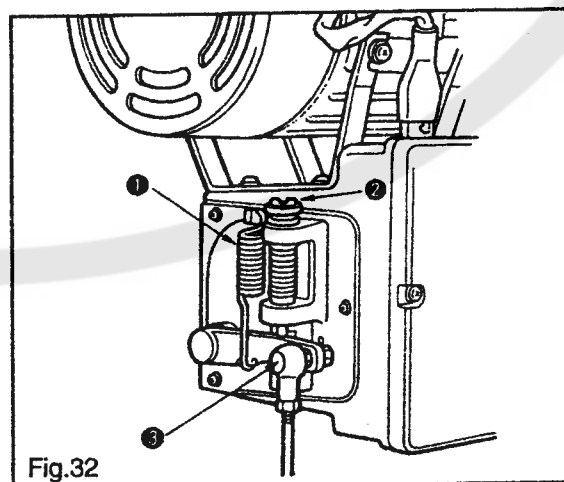

Fig.32
- 1) The lower needle stop position when the pedal is returned to the neutral position after the front part of the pedal is depressed can be adjusted as follows: Stop needle ① in its lowest position, loosen screw ②, and make adjustment within the slot of the screw. Moving the screw in direction A advances the needle stop timing. Moving the screw in direction B delays the timing.
- (Precaution) Do not operate the machine with screw ② loosened. Just loosen the screw, and do not remove it.
27. PEDAL PRESSURE AND PEDAL STROKE (Fig.32)